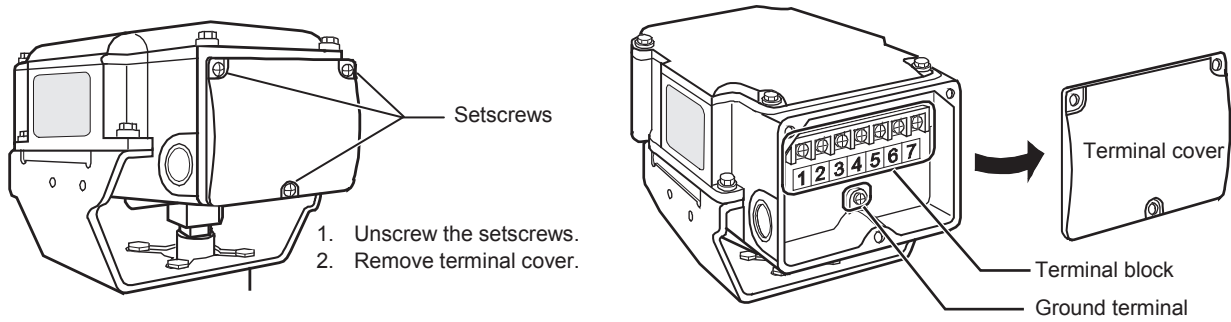

Figure 10. Terminal cover removal
- 2) Unscrew the 3 setscrews (M4 × 10) of the terminal cover and remove the terminal cover, as shown in Fig. 10.
- 1) Unscrew the setscrews and remove the terminal cover. See Fig. 10 for removing the terminal cover.